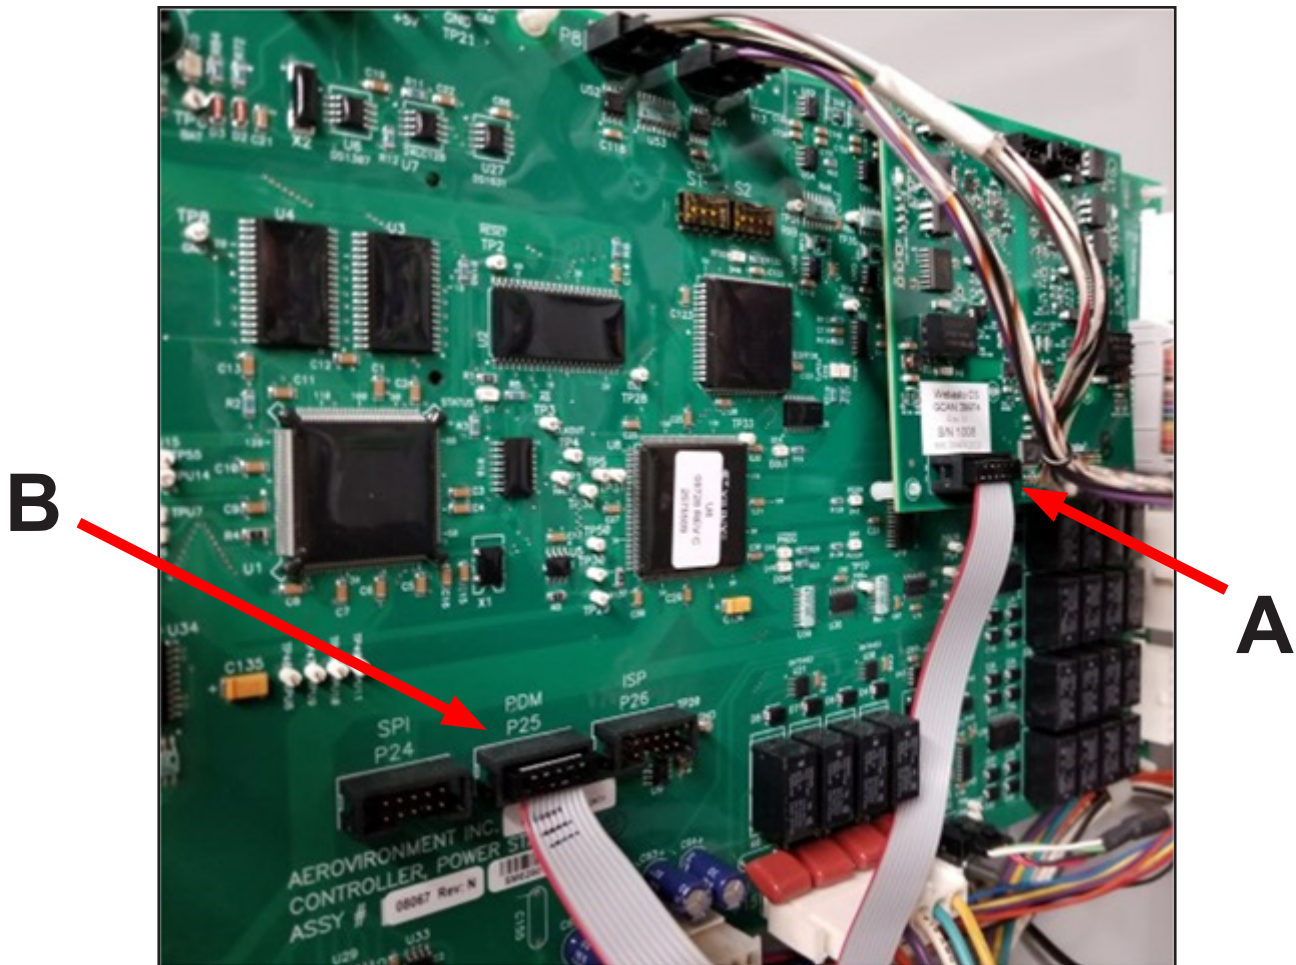

Figure 8 – GCAN Board Connected to the 5VDC Supply at Port 25 on the GSE Control Board with the Ribbon Cable
3.3.3 – Connect the GCAN board ribbon cable connector to the GCAN board ribbon cable port (Figure 8, A) and the P25 ribbon cable connector to the P25 ribbon cable port (to the 5VDC⁶ supply) (Figure 8, B) on the GSE control board.